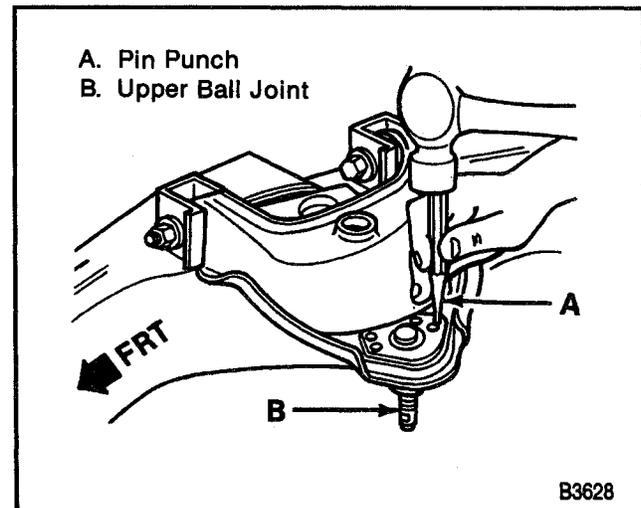

Figure 19—Removing the Upper Ball Joint Rivets
C. Punch the rivets out using a small pin punch (Figure 19).